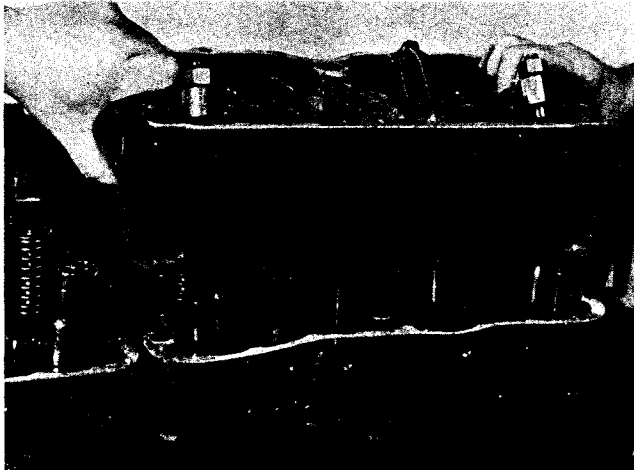

Fig. 0-22, (N100147). Removing rocker housing assembly
3. Remove rocker housing assembly and discard gaskets. Fig. 0-22.